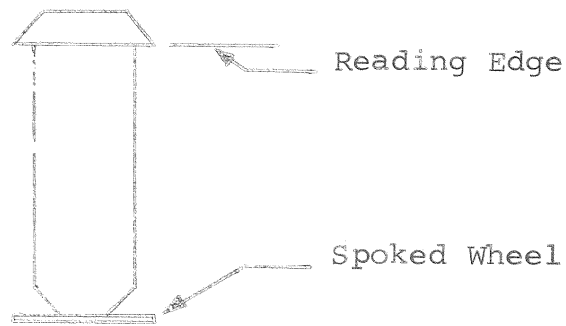

Figure 4-1. Rotameter Float
Before mounting, fill the Calorimeter with water and insert the float into the rotameter by removing the drain cock at the top of the rotameter. The float must be inserted with the spoked wheel facing the bottom of the rotameter. DO NOT DROP THE FLOAT. DAMAGE TO THE FLOAT WILL CAUSE INACCURATE READINGS. Refer to Figure 4-1 for an illustration of the float.
1. Turn on the water and adjust the flow rate for the maximum power of the load being used. These are minimum values. Flow rate must be regulated at the water flow valve with the source valve turned on full. See Fig. 4-1 below to determine the reading edge of the float.